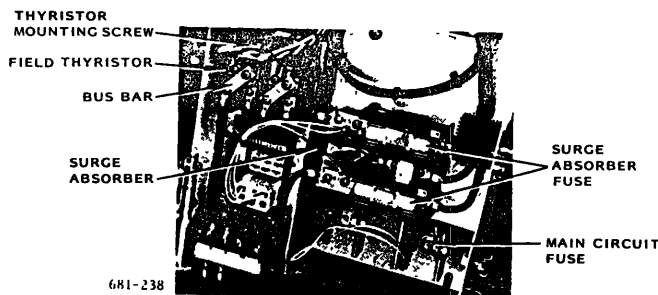

Fig. 11 Field Thyristor (230V, 25A)
1. Loosen the bus bar screws and the lead clamping screws, and unclamp the leads. In this case, mark all the terminals for identification. (Fig. 11)